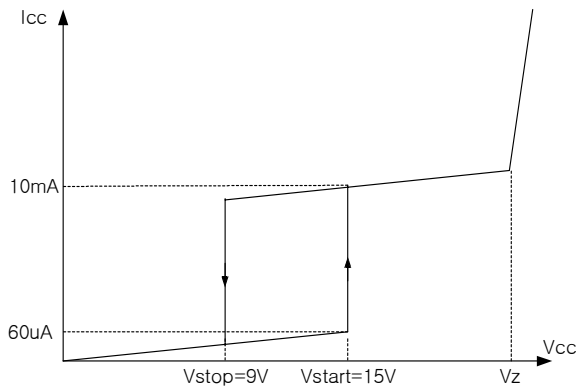

Figure 1. Relation between supply current and voltage
1. Startup : To guarantee stable operation of the control IC, Vcc has under voltage lockout (UVLO) with 6V hysteresis. Figure 1 shows the relation between the supply current (I_{cc}) and the supply voltage (Vcc). Before Vcc reaches 15V, the start-up current is 60 μ A, which is usually provided by the DC link through start-up resistor. When Vcc reaches 15V, the control IC begins operation and the operating current increases to 10mA as shown. Once the control IC starts operation, it continues its normal operation until Vcc goes below the stop voltage of 9V.